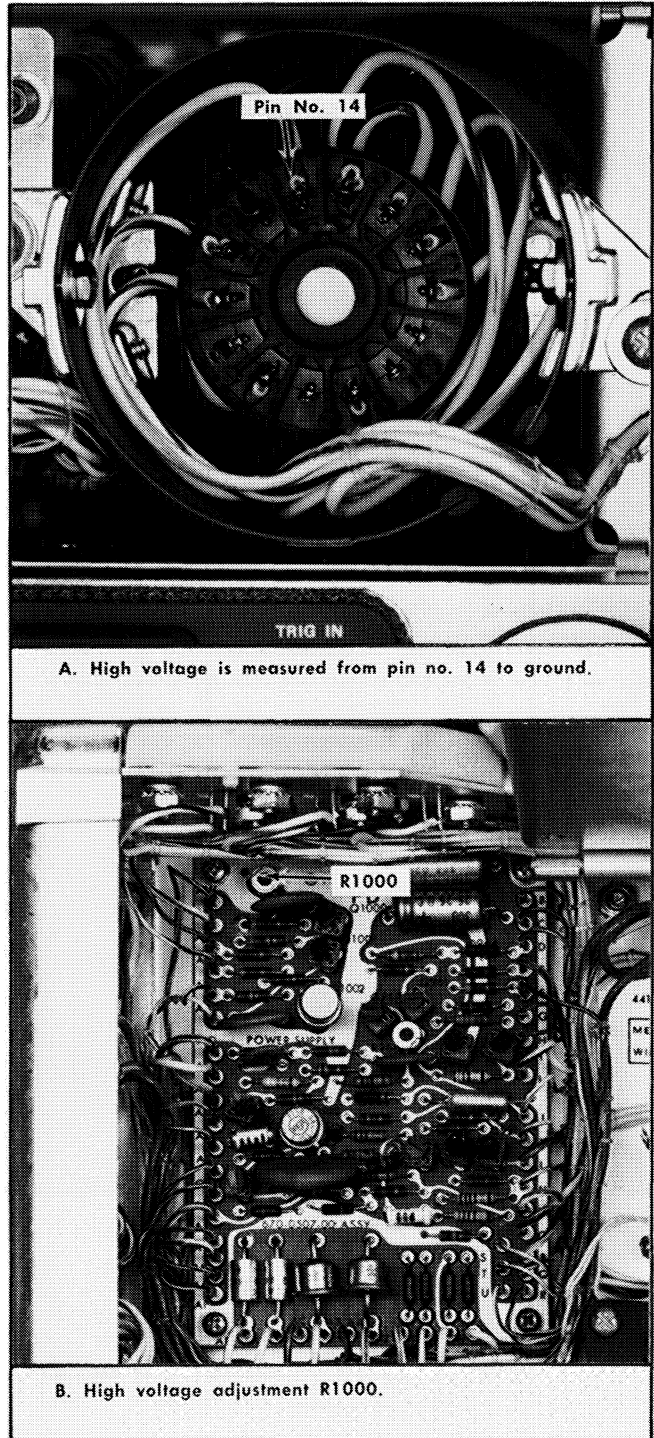

Fig. 6-6. Adjusting the -3670 V supply.
c. Connect the voltmeter between pin 14 of the CRT base socket and chassis ground. (See Fig. 6-6). Set the voltmeter range to measure approximately 4000 volts.
d. Turn the POWER switch to ON and adjust the High Voltage Adj R1000 (Fig. 6-6) for a meter reading of —3670 volts.